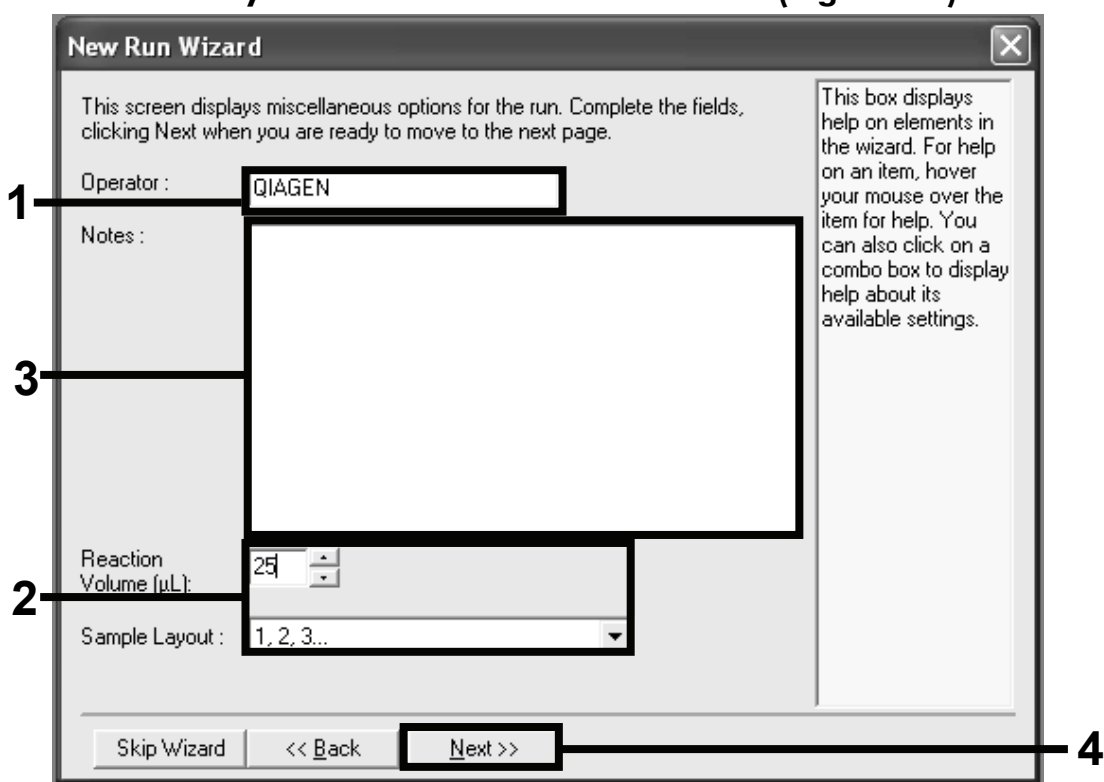

Figure 16. Setting the general assay parameters.
11. Enter the name of the operator, enter 25 μ l for the reaction volume, and add any additional notes. Click “Next” (Figure 16).